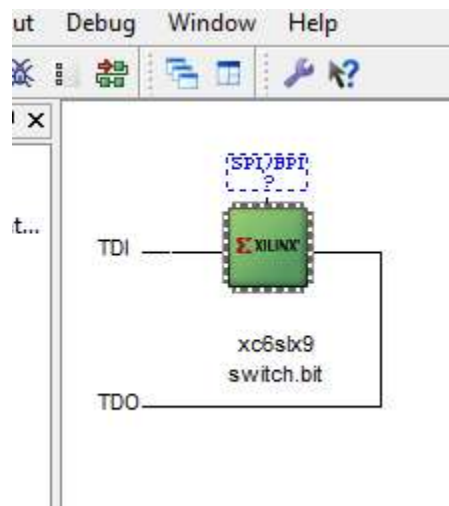

Fig 1.35
39. Click on Xilinx IC symbol (Fig1.35)